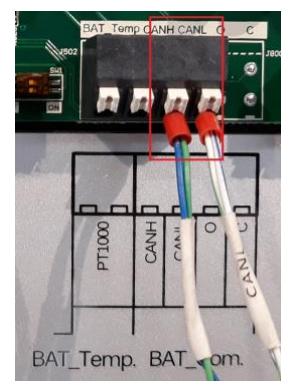

Figure 7 BAT_Com. port in the inverter
Step 4 Plug CANH wires into the CANH port and plug CANL wires into the CANL port of the configuration circuit board of SH5K+/SH5K-20 (Figure 7).